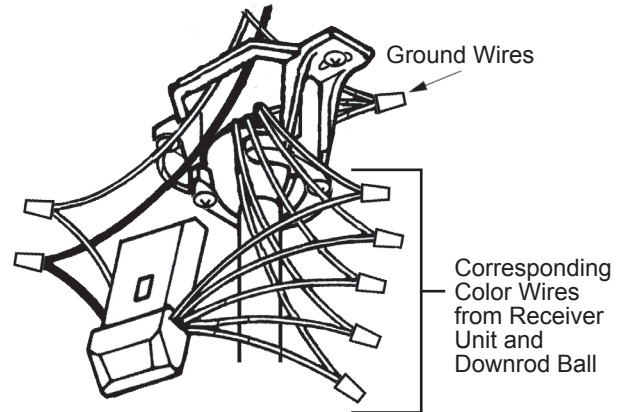

Figure 5.8
Step 8. Securely connect each of the Receiver Unit wires to its corresponding color wire exposed from the top of the Downrod Ball with a connecting wire nut. Also, connect all Ground wires (green) with the main Ground wire from the Electrical Box. (Fig. 5.8)